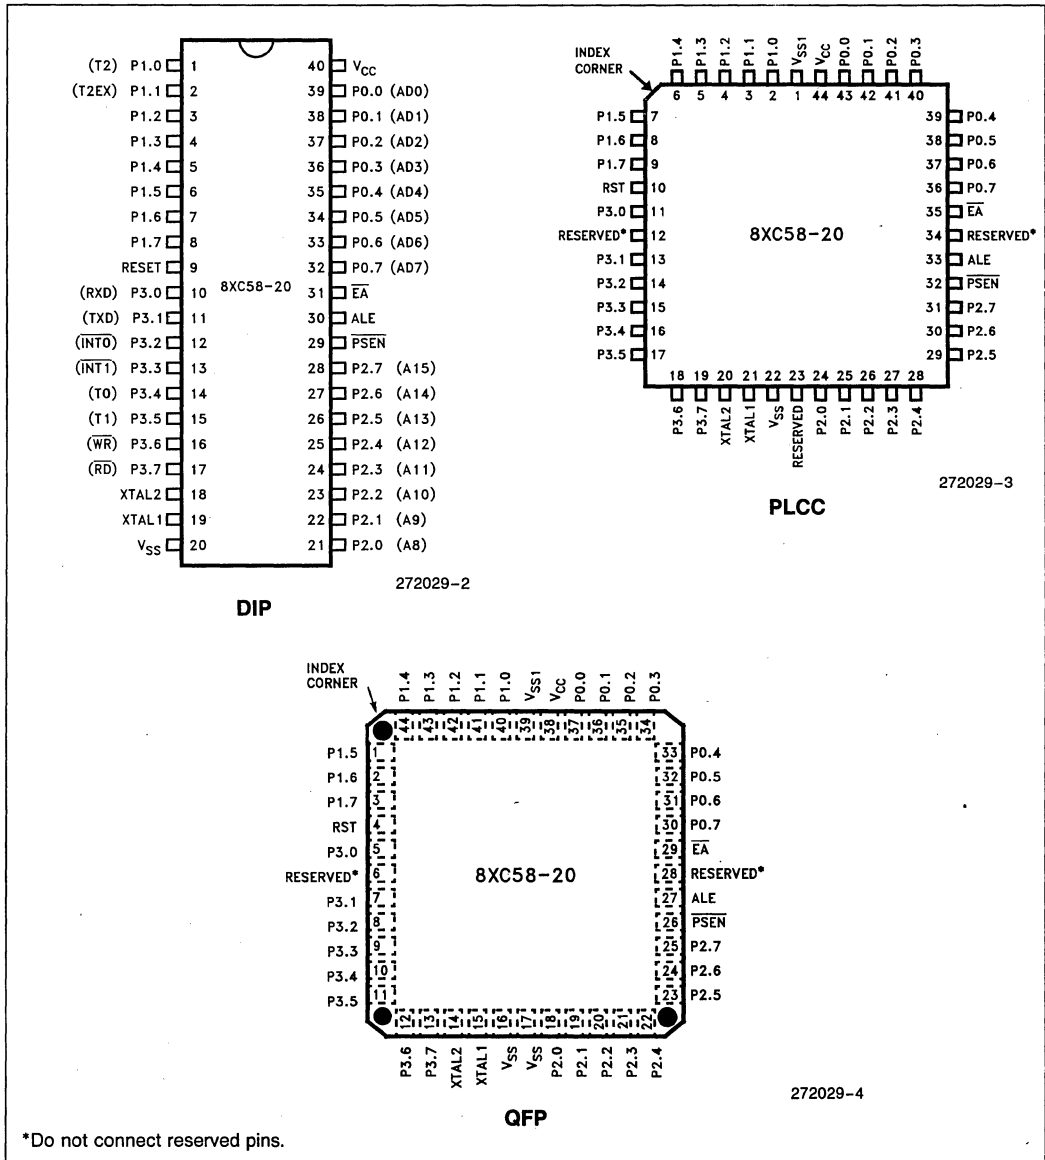

Figure 2. Pin Connections
3. "NC" pin labels changed to "Reserved" in Figure 2.